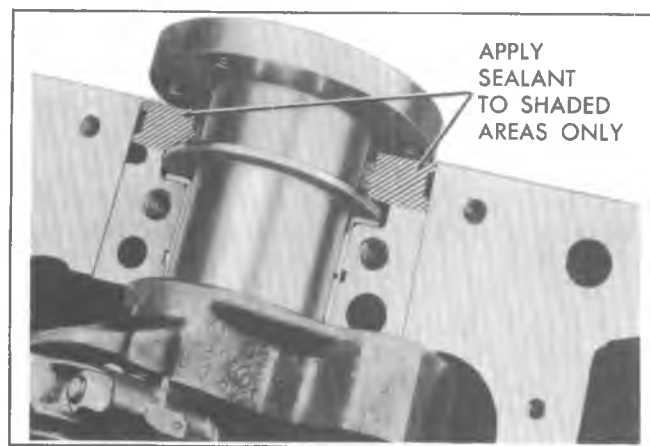

Fig. 6A4-50--Sealing Bearing Cap
12. Install bearing cap to case with sealant applied to the cap-to-case interface being careful to keep sealant off the seal split line (fig. 6A4-50).